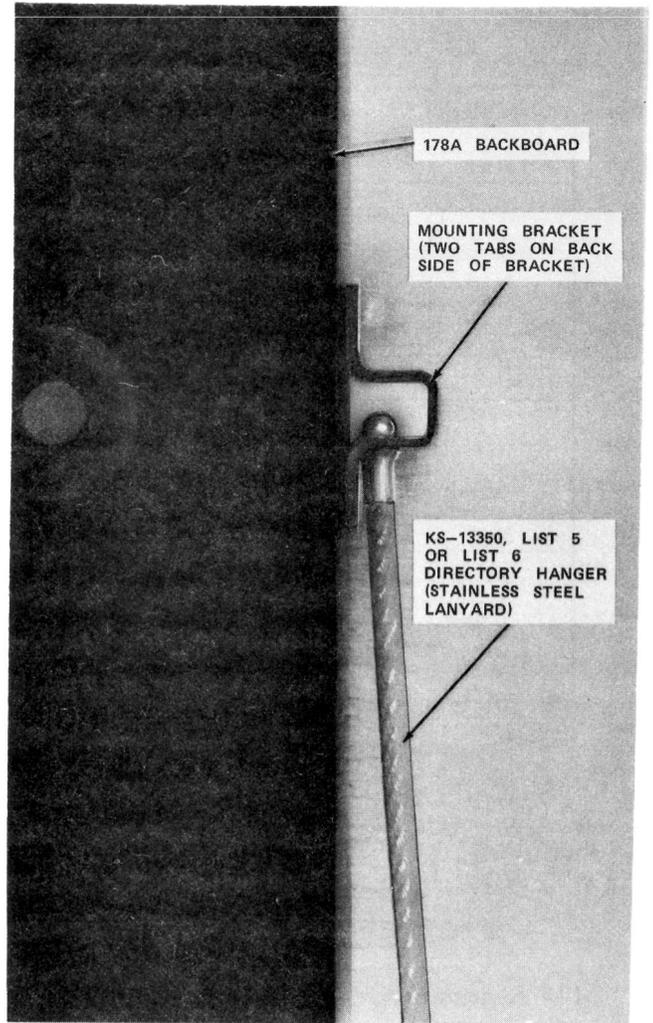

Fig. 4—KS-13350, List 5 or 6 Directory Hanger Installed on 178A Backboard
**2.04** ♦ Attach the KS-13350 (Lists 5 and 6) type directory hangers on 178A backboard only (Fig. 4) as follows: